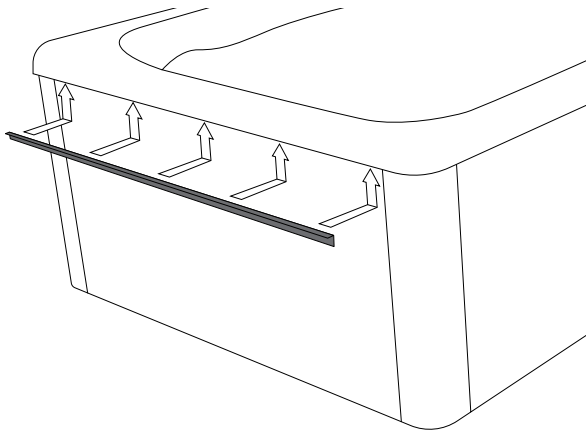
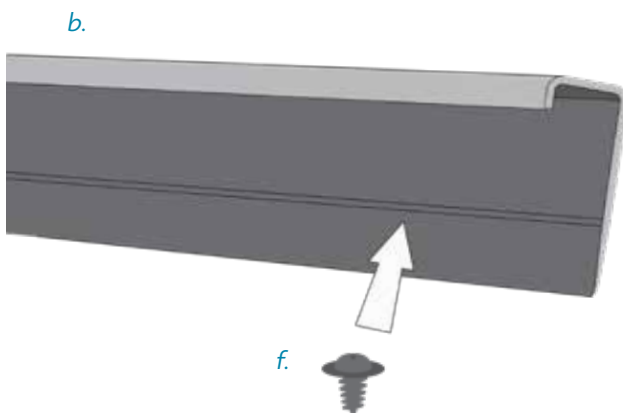

FIGURE 2
FIGURE 3
2. **LEVER CHANNEL** Install Lever Channels (b) to both 8' ends of the swim spa skirting (Figure 2). Center Lever Channel on the swim spa skirting against the swim spa shell flange with "L" side up (Figure 3). Use 5 of the #8x½" screws (f) to mount this. First, install 1 screw into the channel groove at each end, 1" from the end (Figure 3). Then, space the remaining 3 screws evenly across the Lever Channel. Repeat for the opposite end of the swim spa.